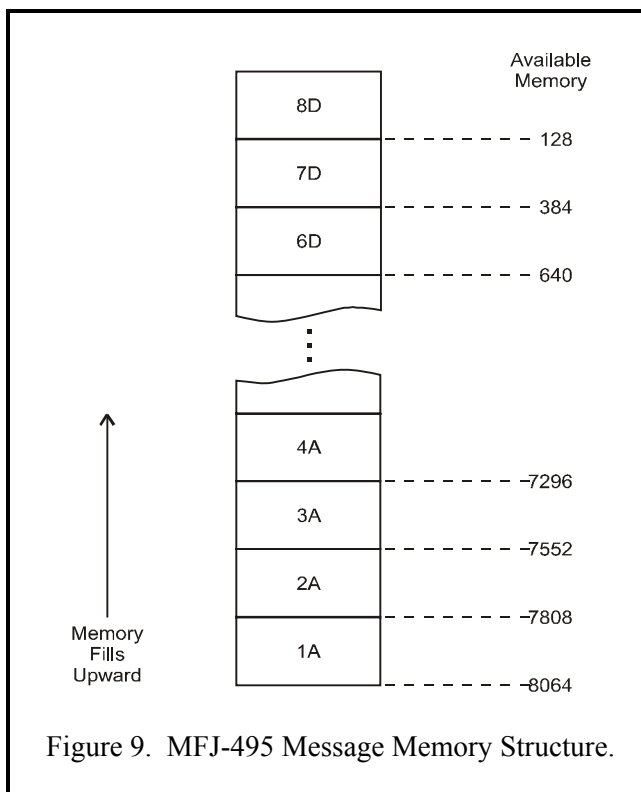

Figure 9. MFJ-495 Message Memory Structure.
The unit's 8K memory is organized with four banks of eight blocks of 256-bytes each, except the last block. This composes of 32 individual memory blocks arranged in a stack structure, illustrated in the diagram shown in Figure 9. The memory banks are labeled A through D. The total memory available is 7.875K (8064) characters, where 1K = 1024. Each memory block is nominally ¼K (256) characters, except the last block 8D that has a capacity of 128 characters. However, an individual message may fill more than one memory block. When this happens, blocks are filled sequentially, moving upward in the diagram. If a message begins in block 1B or higher memory blocks, ¼K is reserved for each of the previous memory blocks.